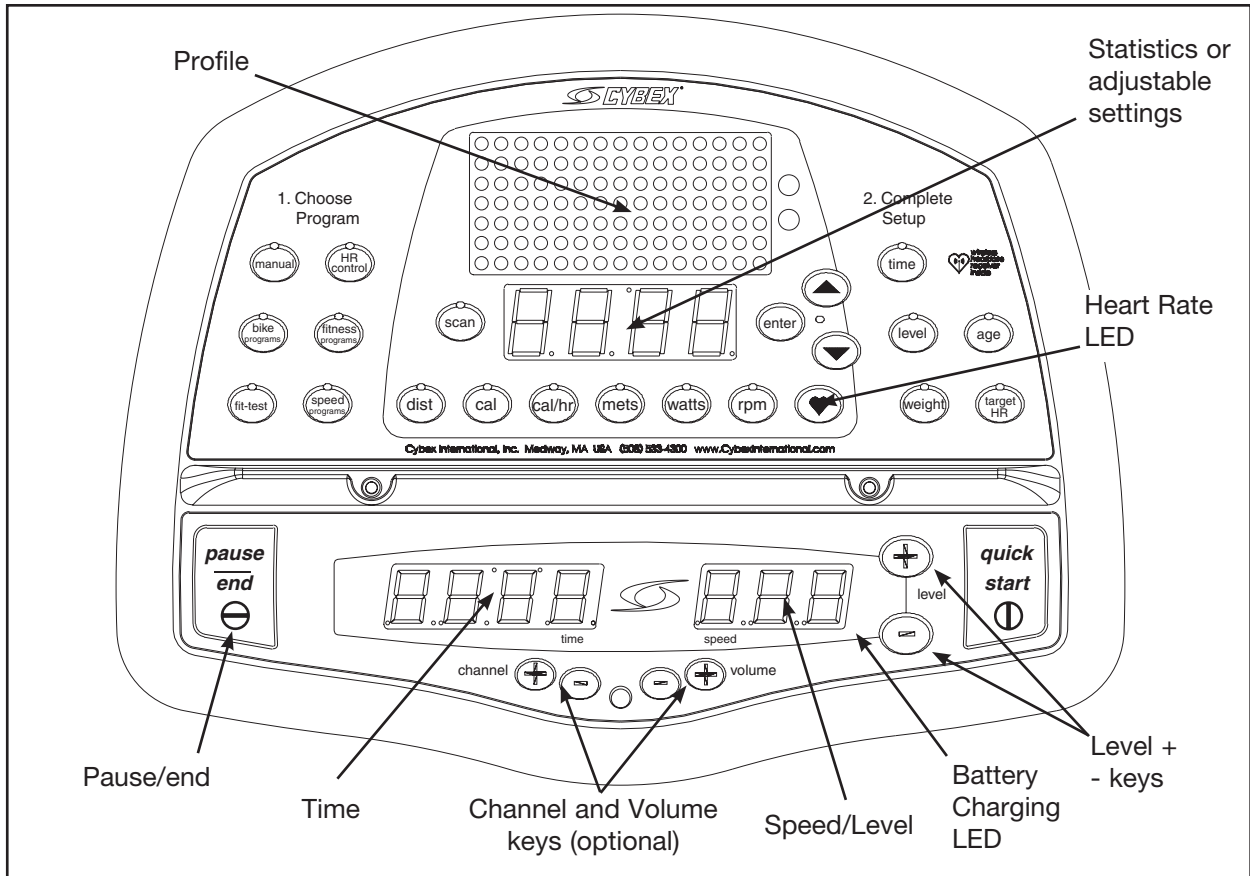
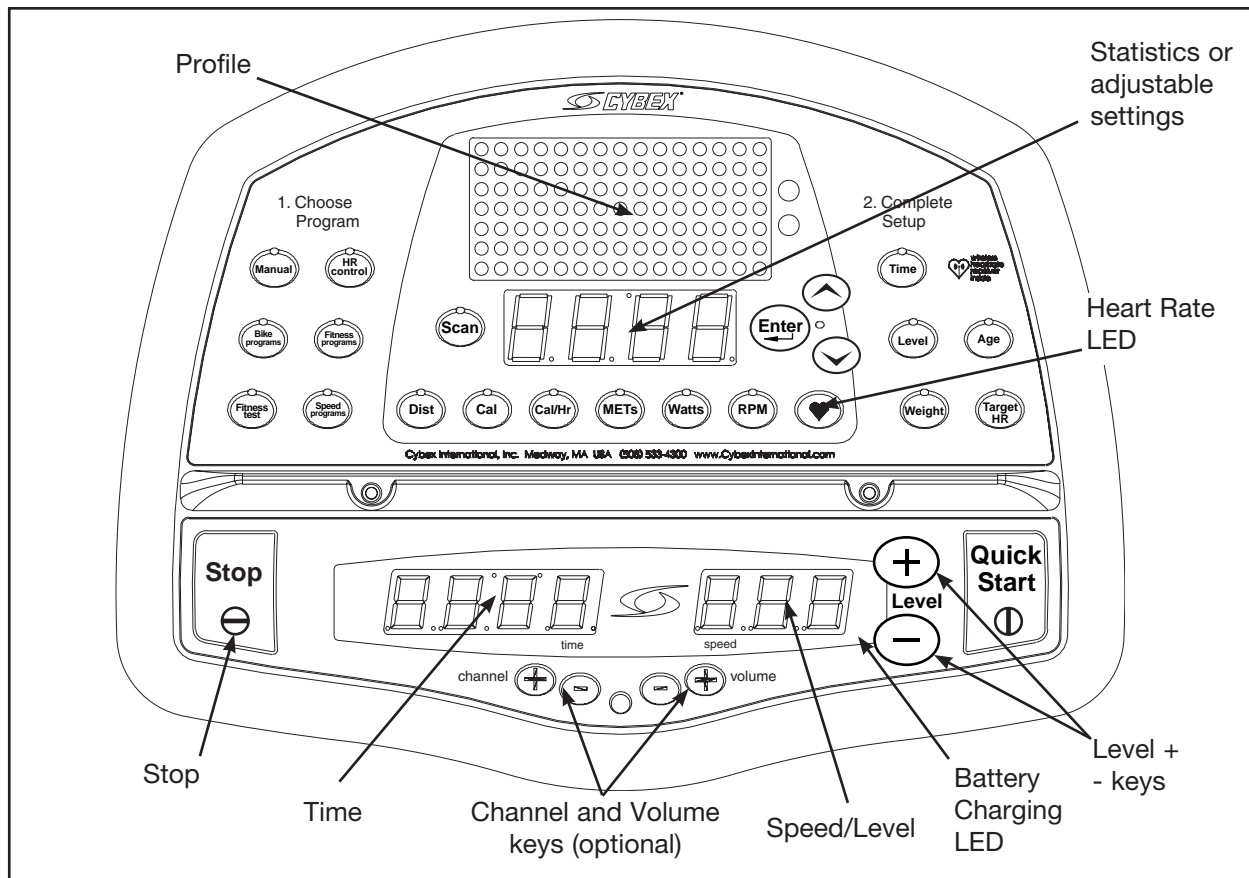

Figure 1A (Standard)
Figure 1B (Total Access)
NOTE: Standard units contain a **Pause/end** key. See Figure 1A. Total access units contain a **Stop** key. See Figure 1B.
6. Observe the four displays (See Figure 1A or 1B):
NOTE: Heart Rate is scanned only when you are holding the contact heart rate grips or using Polar compatible heart rate transmitter. See Figure 1A or 1B.